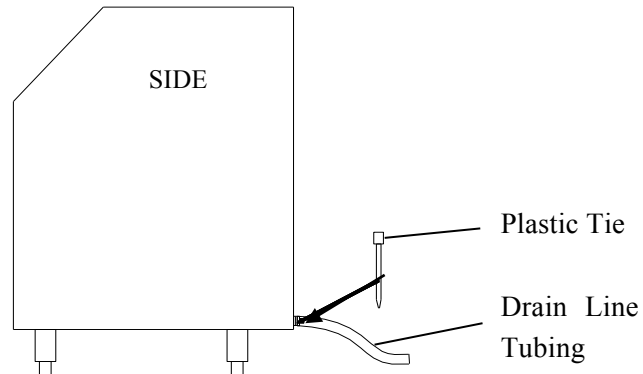

Fig.4
2. Use hose clamp or supplied plastic ties to secure drain line tubing and provide a liquid tight seal (Fig.4).